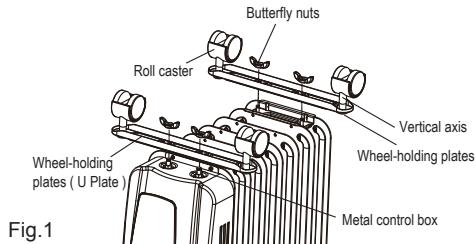

Fig.1
3. Attach the wheel-holding plates onto the heater as Fig.1 shows. The U plate is fixed between the last two fins and the other one is fixed under the metal control box. Fix the castors to the vertical axis of both the wheel holding plates.